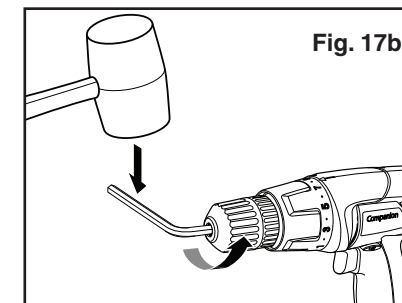

Fig. 17b
5. Insert the hex key back into the chuck and tighten the chuck jaws securely. Tap sharply with a mallet in a counterclockwise direction (see Fig. 17b). This will loosen the chuck on the spindle. It can now be unscrewed by hand.